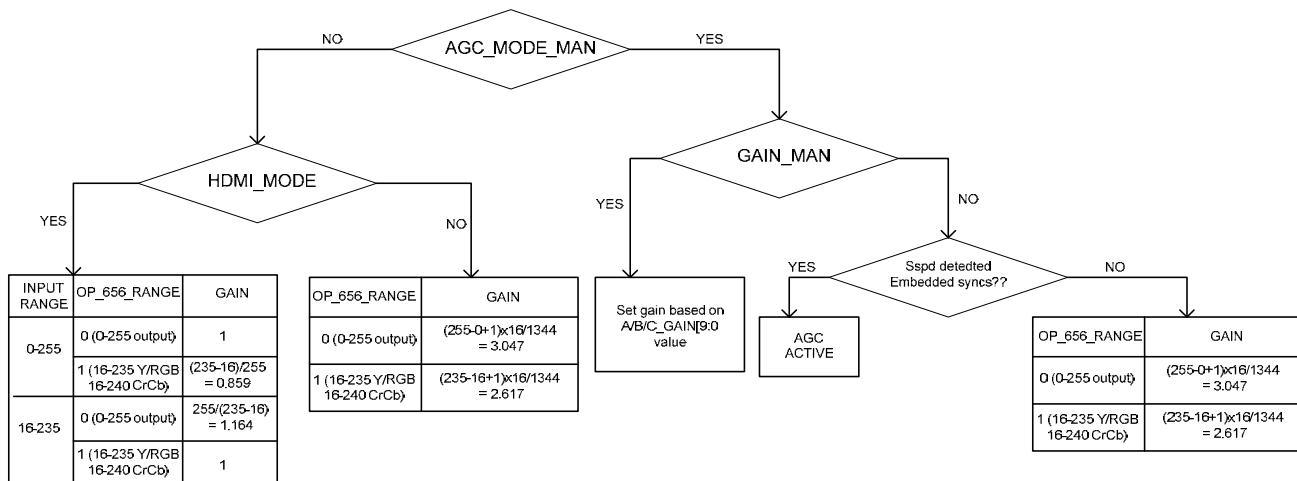

Figure 110: CP Automatic Gain Controls
Figure 110 shows how the gain is applied to the video data processes by the CP section. The following gain configurations are available:
- If, however, SSPD does not find any external synchronization signal, it concludes that the synchronization must be embedded. This switches the gain block in the CP core into automatic mode (refer to Section 10.8). This function can be disabled using the AGC mode manual enable control, **AGC_MODE_MAN**, as illustrated in Figure 110.